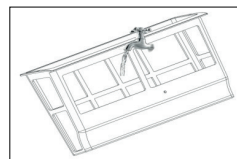

Figure 4
- Clean both filter baskets (see Figure 4).